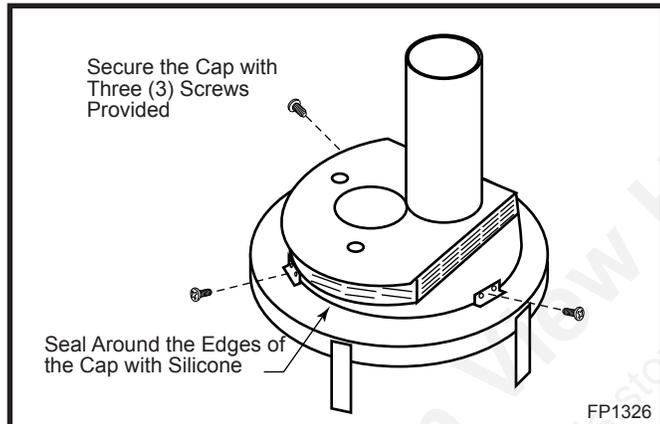

Fig. 18 Round vent termination with extended assembly.
- Install the extended cap 14" (356 mm) with the round vent termination by setting the vent termination on top of the extended cap, then secure it with three (3) screws (provided) through the mounting bracket holes and seal around the edges of the vent termination with the silicone provided. (Fig. 18)